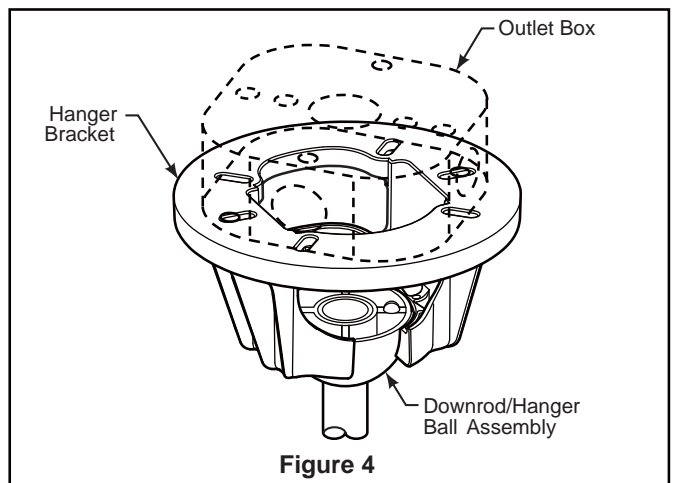

Figure 4
4. Install the clevis pin, hairpin clip and tighten set screws. The clevis pin and hair pin clip must be properly installed to prevent the set screws from working loose. (Figure 4)
3. Carefully lift the fan and seat the downrod/hanger ball assembly on the hanger bracket that was just attached to the outlet box (Figure 4). Be sure the groove in the ball is lined up with tab on the hanger bracket (Figure 3).
4. Attach the adapter-switch cup to the support flange using three of the previously removed six screws and fully tighten. (Figure 4)
- 4. Remote Control Setting and Speed (RPM) Setting Process : (Figure 4)**